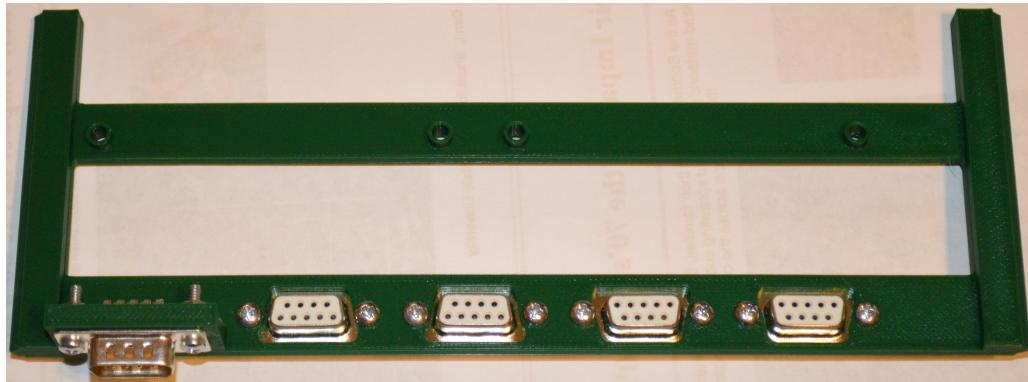

Figure 2.4: Panel I/O Tray with Connectors
- Attach the connectors to the tray. See Figure 2.4.